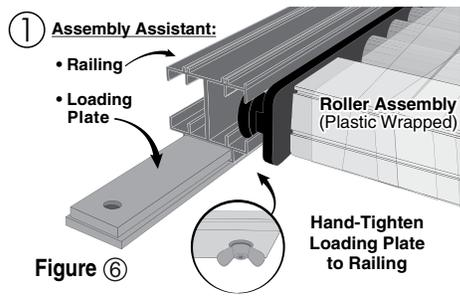

Figure 6
- 1 Insert the LOADING PLATES into the ASSEMBLY ASSISTANT RAILING and hand-tighten in place (see fig. 6).